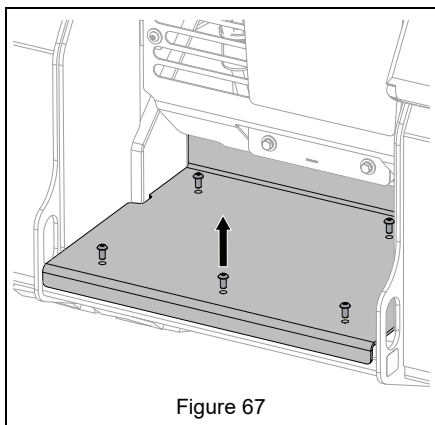

Figure 67
1. With hydraulic fluid drained, remove five screws from foot pad and remove foot pad. See Figure 67.